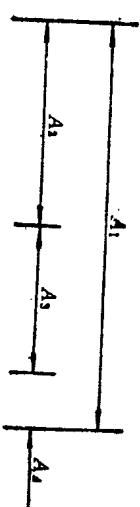

图 10-5
5. 按完全互换法，解如图10-5所示尺寸链，即确定各环的尺寸偏差。设 $A_1 = 50$, $A_2 = 60$, $A_3 = 40$, $A_4 = 20^{+0.01}_{-0.01}$, $\delta A_2 = \delta A_3 = \frac{1}{2} \delta A_1$, $\delta A_1 = \delta A_2 = \delta A_4 = 0.04$, $\delta A_3 = \delta A_5 = 0.01$ 。